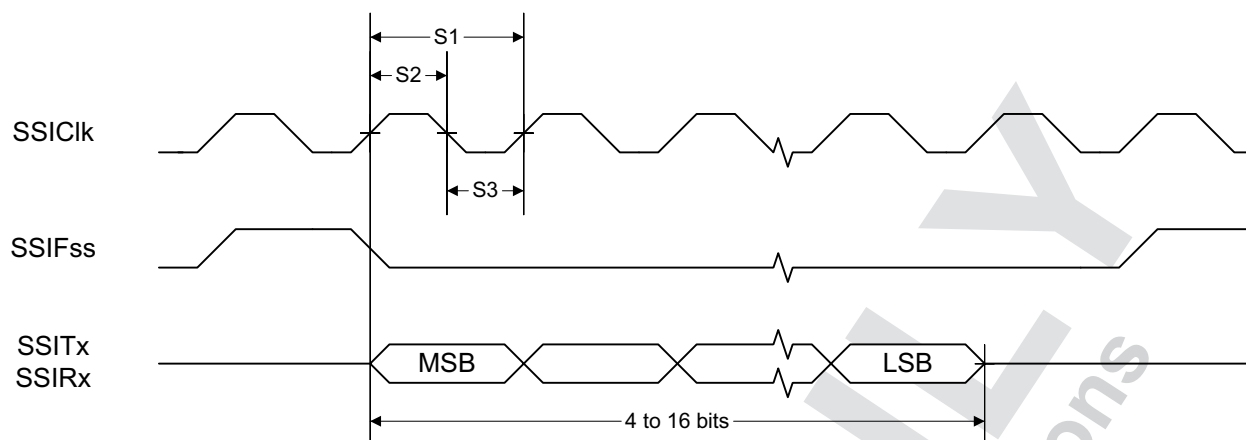
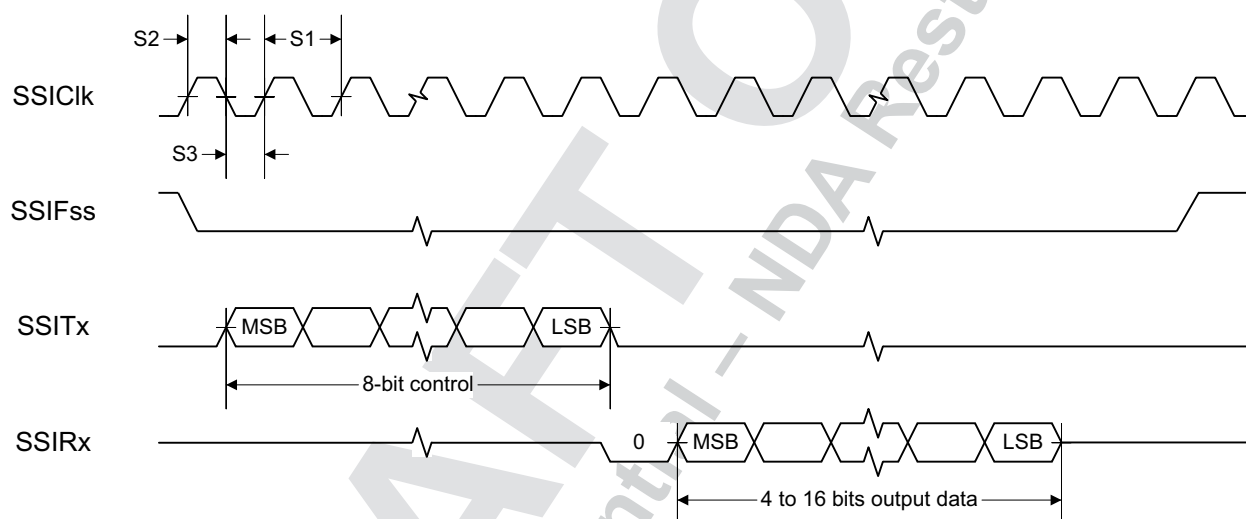
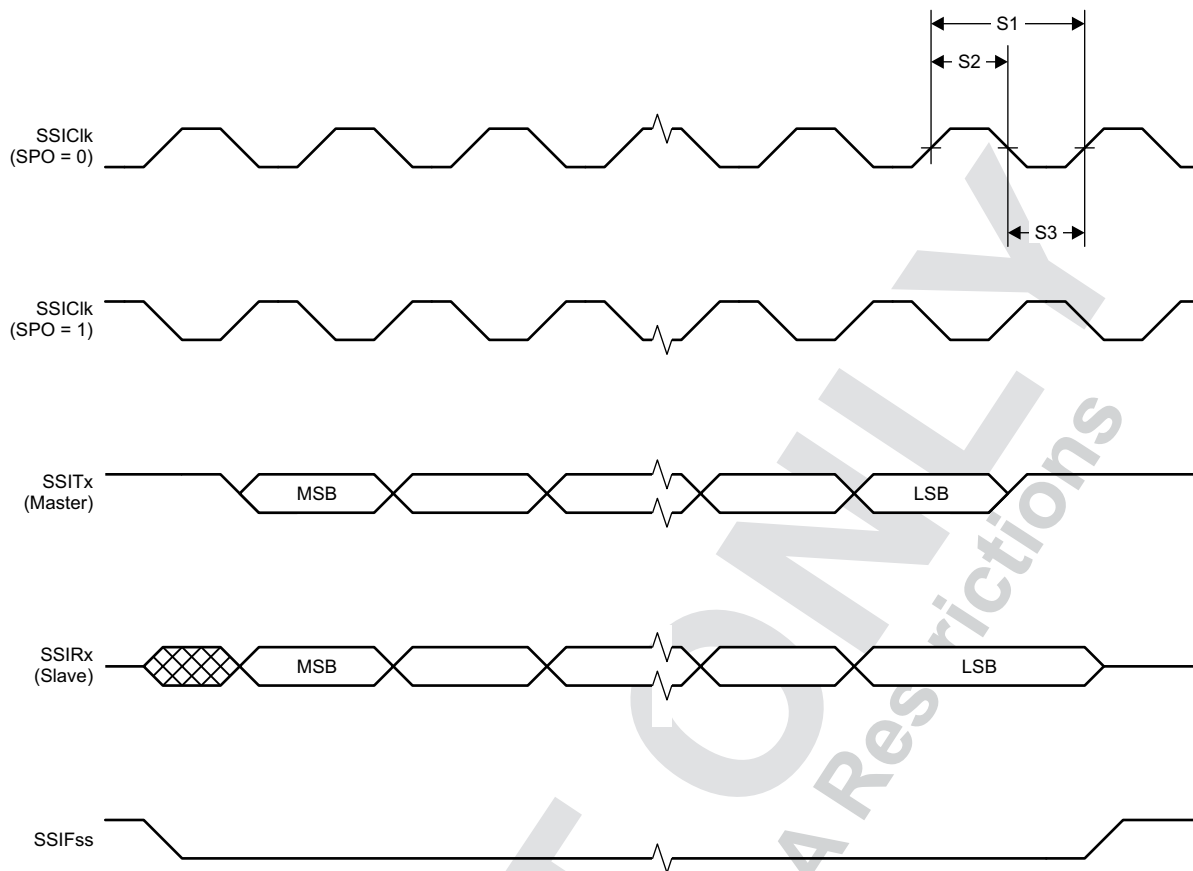

Figure 8-1. SSI Timing for TI Frame Format (FRF = 01), Single Transfer Timing Measurement
Figure 8-2. SSI Timing for MICROWIRE Frame Format (FRF = 10), Single Transfer
Figure 8-3. SSI Timing for SPI Frame Format (FRF = 00), With SPH = 1
(1) Refer to SSI timing diagrams Figure 8-1, Figure 8-2 and Figure 8-3.
(2) When using the TI-provided Power driver, the SSI system clock is always 48 MHz.